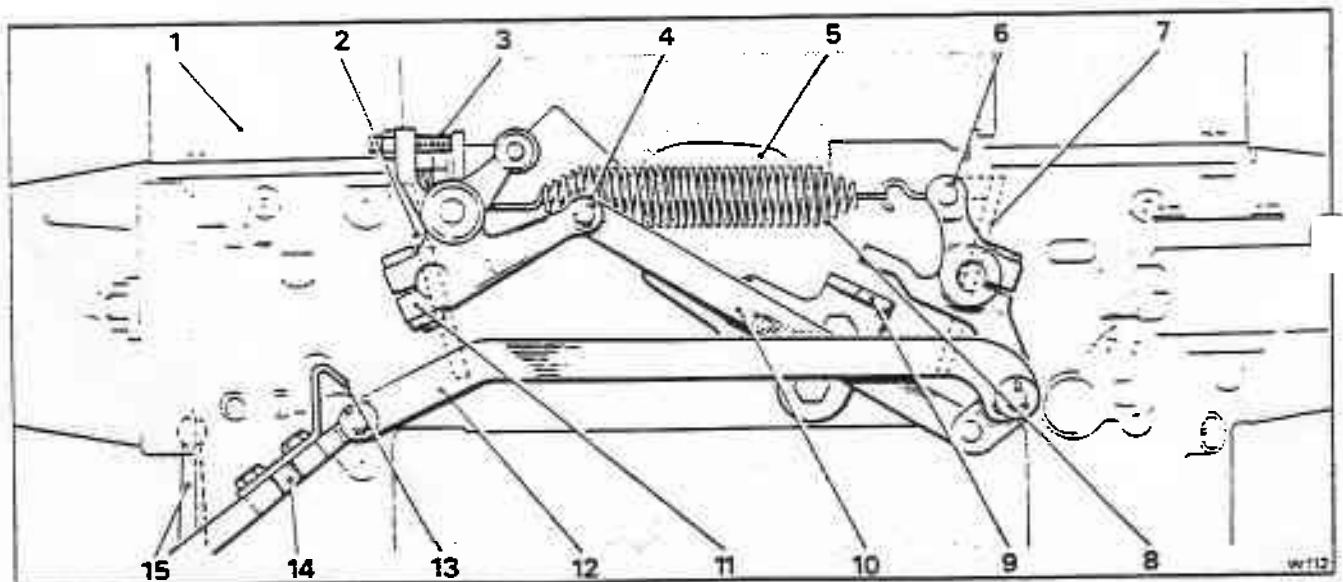

Fig. K7-1 Carburettor throttle linkage
Carburettor throttle linkage -- To fit and set (see fig. K7-1)
11. Ensure that the clearance between the cross link guide (item 9) and the cross link is between 1,27 mm and 1,78 mm (0.050 in and 0.070 in). If necessary bend the guide to obtain this clearance.
13. Fit the idle stop screw (item 3) and lock-nut; adjust until the screw just contacts the stop bracket ensuring that the throttle butterflies are in the closed throttle position.
15. Connect one end of the drive link (item 12) to the 'B' bank throttle lever and the opposite end to the manifold shaft lever (item 14).
17. Ensure that the throttles are in the closed position. Check that the 'A' bank control shaft to control rod lever (item 15) on the rear of the manifold shaft lever is vertical, when compared with the angle of the front manifold shaft lever (item 14). Refer to figure K7-1 for details. Tighten the securing bolts on both levers.